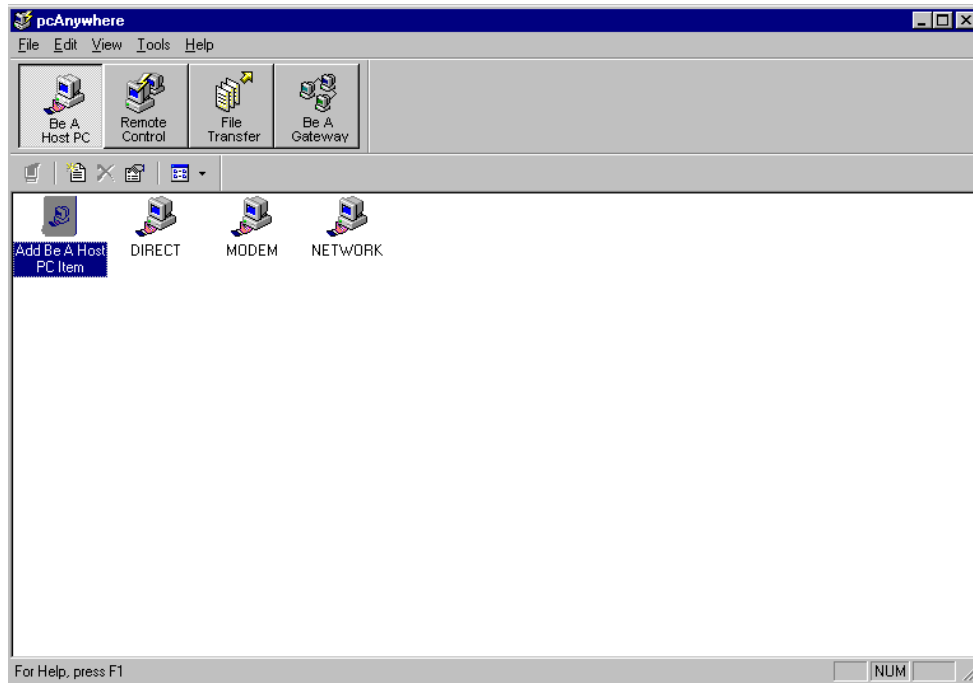

Figure 5-1. pcAnywhere “Be a Host PC” GUI
- b. When the pcAnywhere GUI appears, click on the Be a Host PC button as shown in Figure 5-1.
- a. On the remote workstation click on the Symantec pcAnywhere icon, or select Start/Programs/Symantec pcAnywhere. A GUI similar to that shown in Figure 5-1 above will appear. This time click on the "Remote Control" button to select the remote control options.